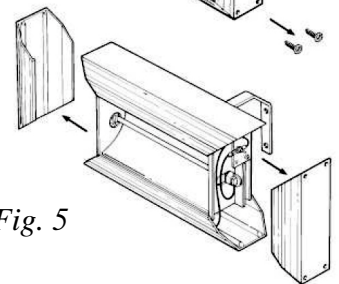

Fig. 5
4. Remove the panels to expose the lamp connections (see Fig.5).